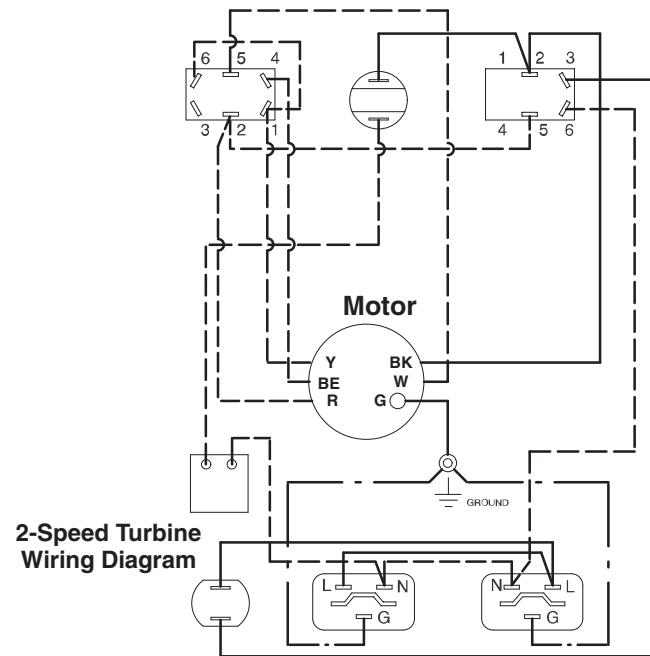

Fig. 4
- Remove turbine gasket (25), three screws (6), turbine plate (82), and three turbine spacers (83).
**NOTE:** Steps 5 and 8 apply only if your GTS-4900 turbine sprayer has a speed controller (48). Installation of this 2-Speed Turbine Conversion Kit does not include reconnecting wires to the speed controller. The speed controller is no longer used with the 2-speed turbine.
- Remove turbine motor wires from spade terminals on speed controller (48).
- Rotate turbine (24) from outlet fitting (18) and lift up from turbine spacers (23) and turbine duct (5) to remove.
- Remove rocker switch (31) and wires connected to it (Fig. 4 wiring diagram).
- Remove two remaining wires connecting speed controller (48) to red rocker switch (34) and filter indicator light (33).
See Wiring Diagram in Fig. 4.